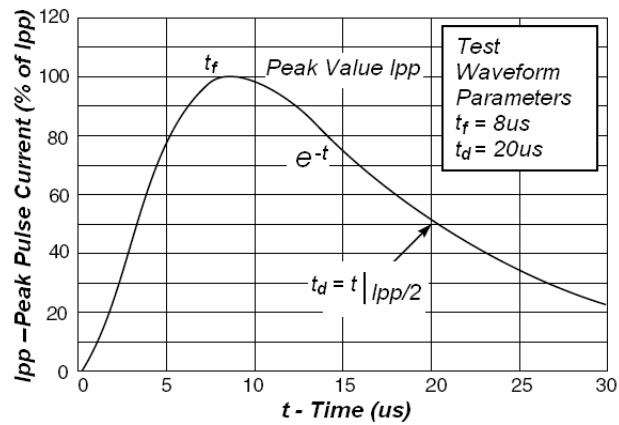

Fig3. Pulse Waveform
- Surge current waveform per Figure 3.